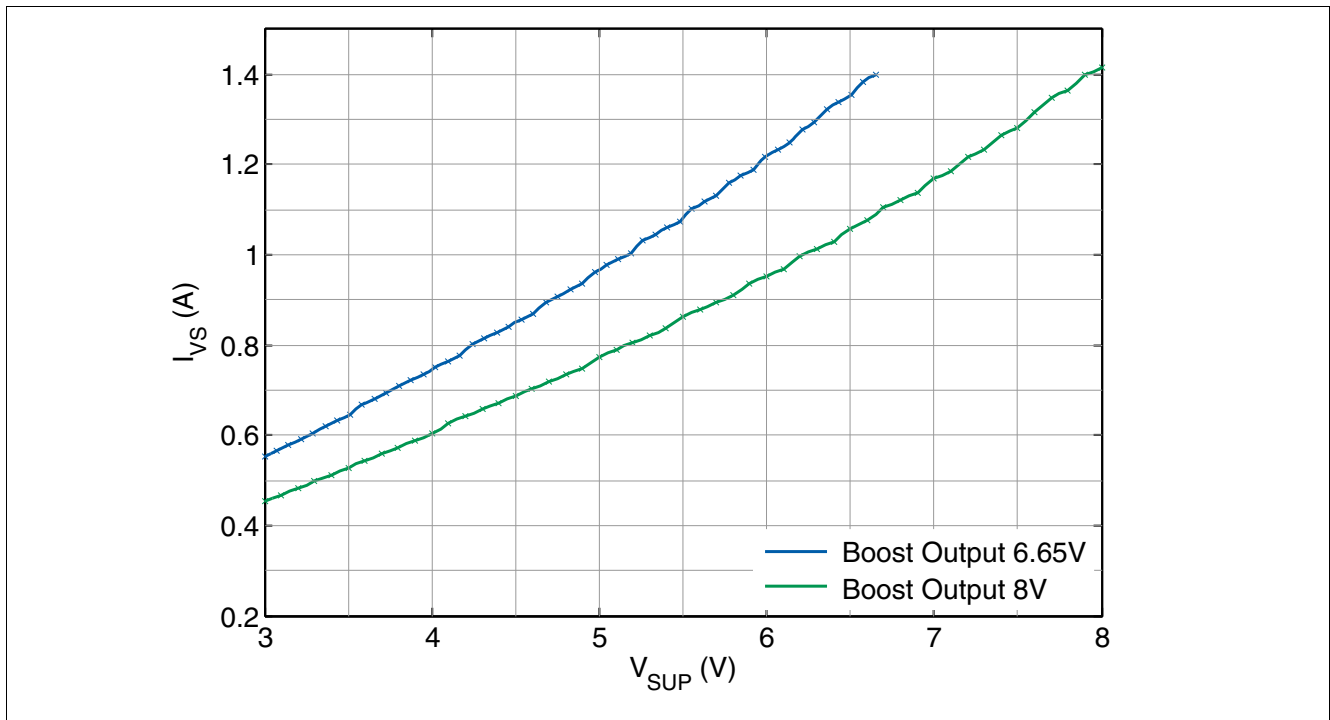

Figure 13 Maximum DCDC Boost current capability versus VSUP(TLE9271..3QX version).
2) Values verified in characterization with Boost converter specified in Chapter 15.1. Not subject to production test; specified by design. Refer to Figure 13 for additional information.
Note: **Figure 13** is based on simulation results (specified by design), with Boost converter external components specified in **Chapter 15.1**.